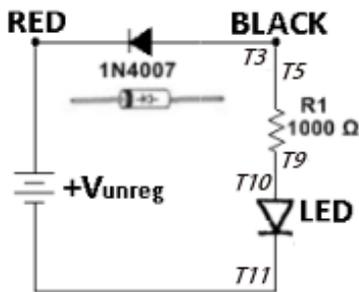

Fig 2.4 Reverse-Biased Diode
5.1. Reverse the diode connections (*now the silver band should be connected to the RED wire*) creating the reverse-biased diode circuit of Figure 2.4